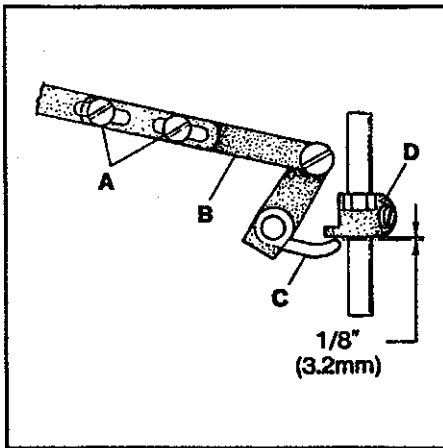

FIG. 21
Replace the presser spring and the presser bar regulating screw. Loosen screws (A, Fig. 21) in lifter lever link assembly (B) and position lever (C) so there is  $1/32$ " (0.8mm) clearance between it and presser bar guide (D) when the feed dogs are below the throat plate.
**NOTE:** Make sure the  $1/32"$  (0.8mm) clearance between the presser bar lifter lever and presser bar guide has been maintained. Refer to Fig. 21 if readjustment is necessary.